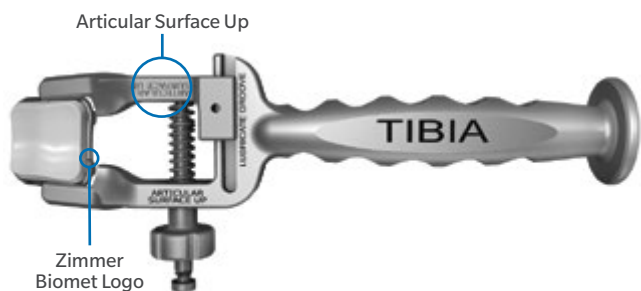

Fig. 91a
- Place the Tibial Implant into the Tibial Inserter/Extractor and tighten the nut (Fig. 91a & 91b).